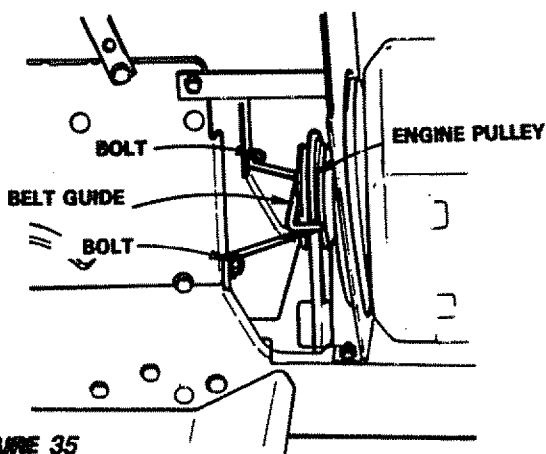

FIGURE 35
- f. Loosen L.H. engine pulley belt guide bolt and swivel belt guide bolt and swivel belt guide on-to R.H. bolt. Tighten L.H. and R.H. bolts securely (Fig. 35).